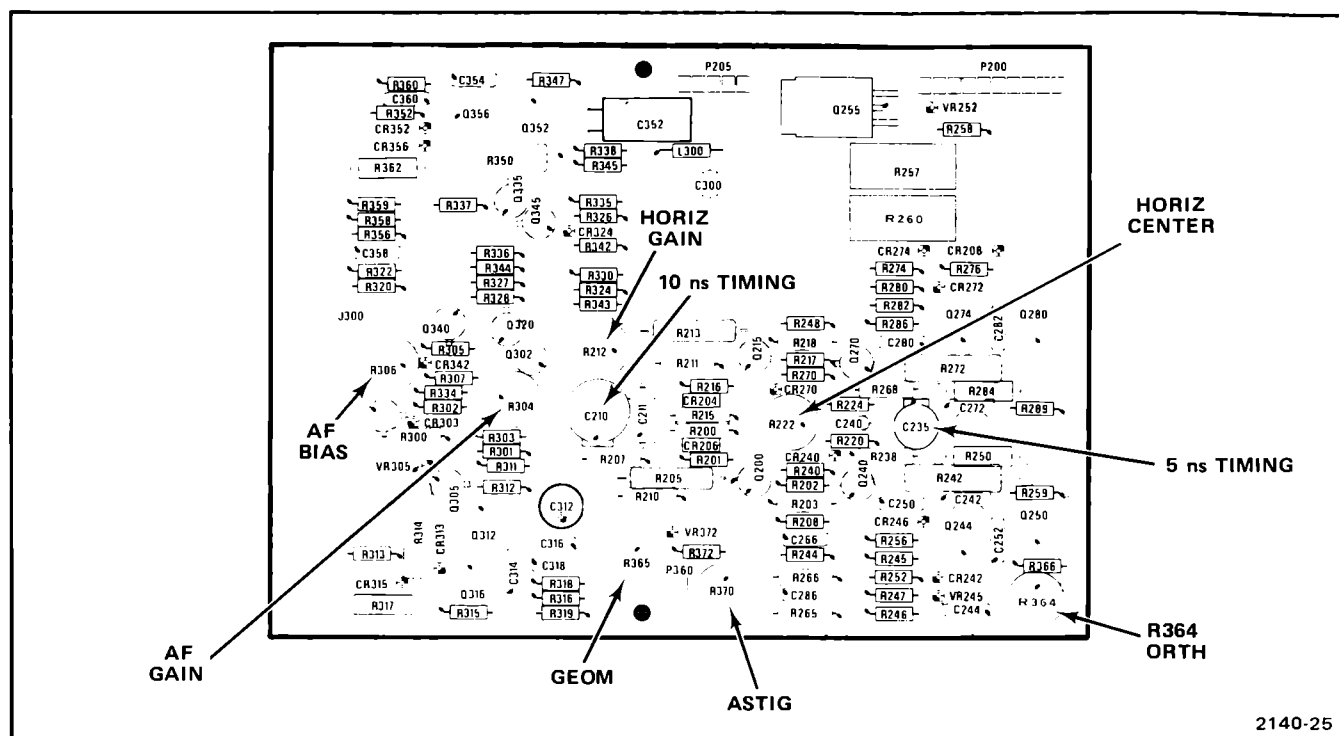

Fig. 4-3. Location of Geom, Astig, Orth, and crt display adjustments (Horizontal circuit board).
- Preset the Auto Focus Bias (R306) and Auto Focus Gain (R304) adjustments counterclockwise (see Fig. 4-3).
- ADJUST—The Focus Preset (R396) on the HV board, and the Astigmatism (R370) on the Horizontal board for the smallest round dot possible (see Fig. 4-3).
f. ADJUST—Y-axis alignment (orthogonality) R364 for minimum tilt (see Fig. 4-3).
g. ADJUST—Geom R365 for minimum bowing or tilt of the trace display at the left and right edges of the graticule. Adjustment may have to be compromised to obtain less than .1 graticule division bowing and tilt everywhere within the graticule area. (See Fig. 4-3 for adjustment location.)